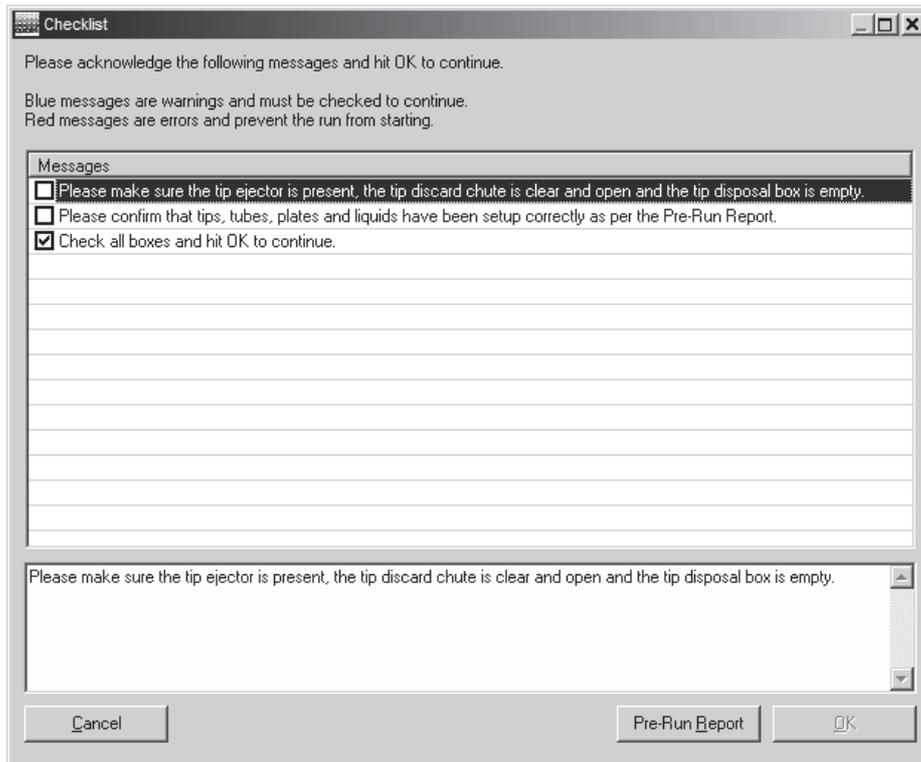

Figure 3. Pre-run checklist.
7. **If the run has been set up correctly, the checklist will not list any warnings or errors other than those listed above. If errors are listed, user intervention is required before the run can be started. Select the boxes next to the warnings to continue (Figure 3).**